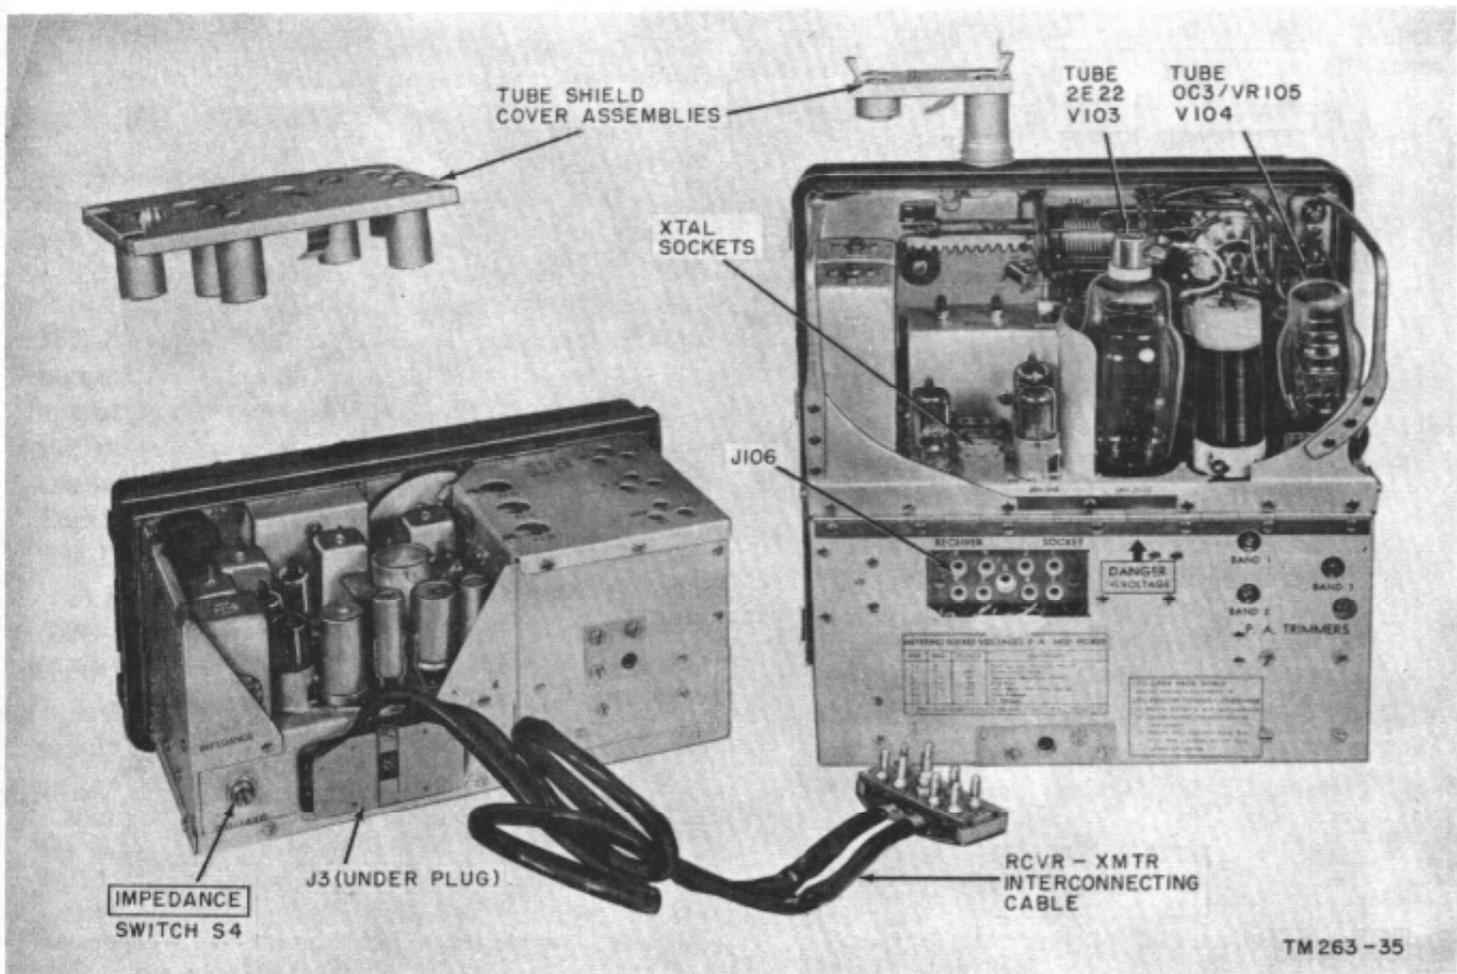
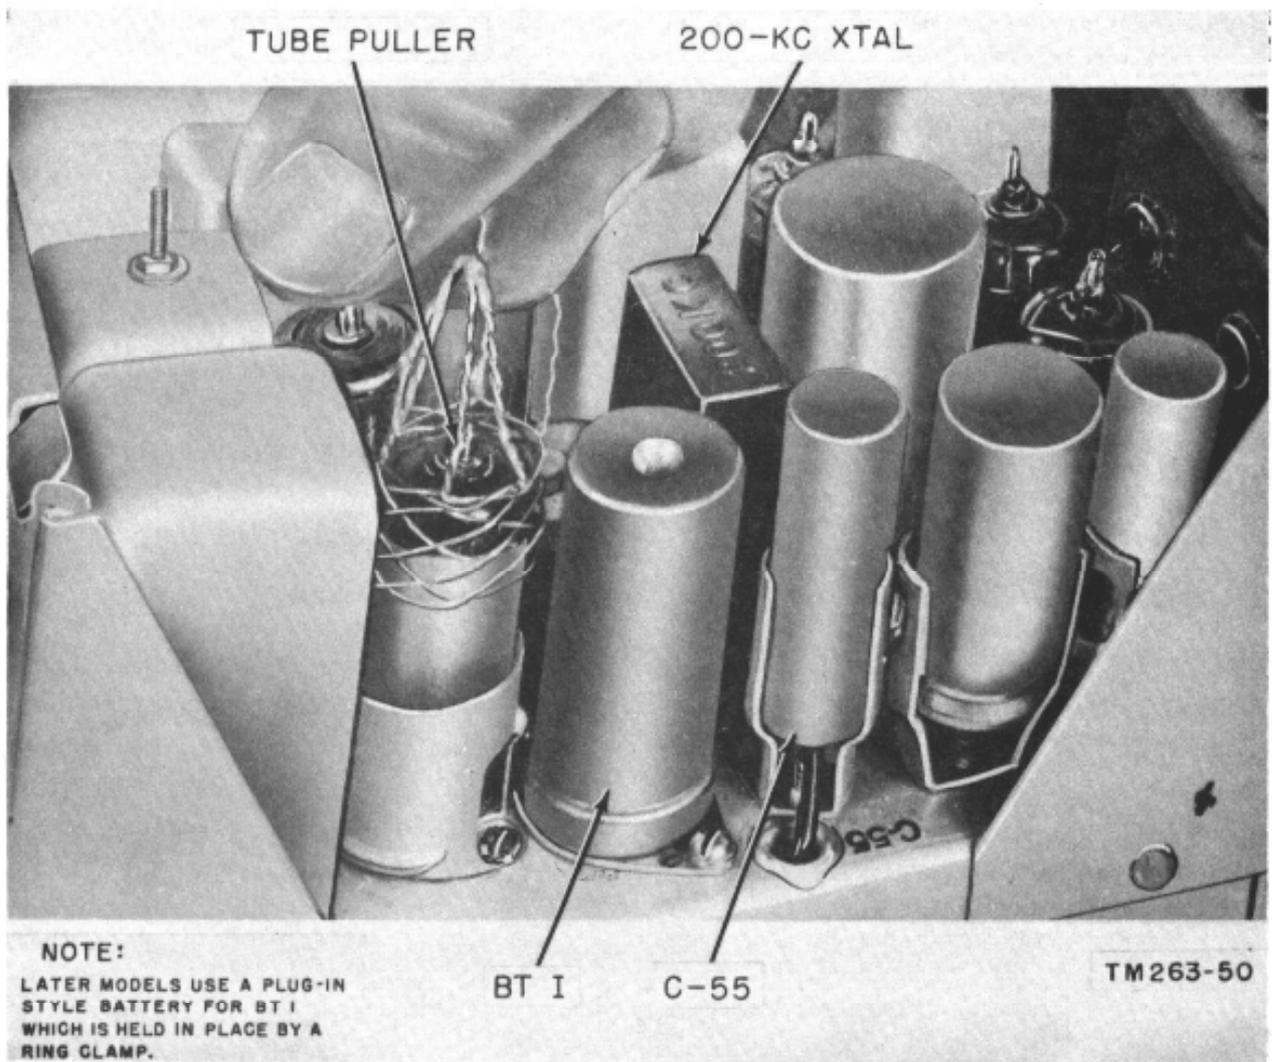
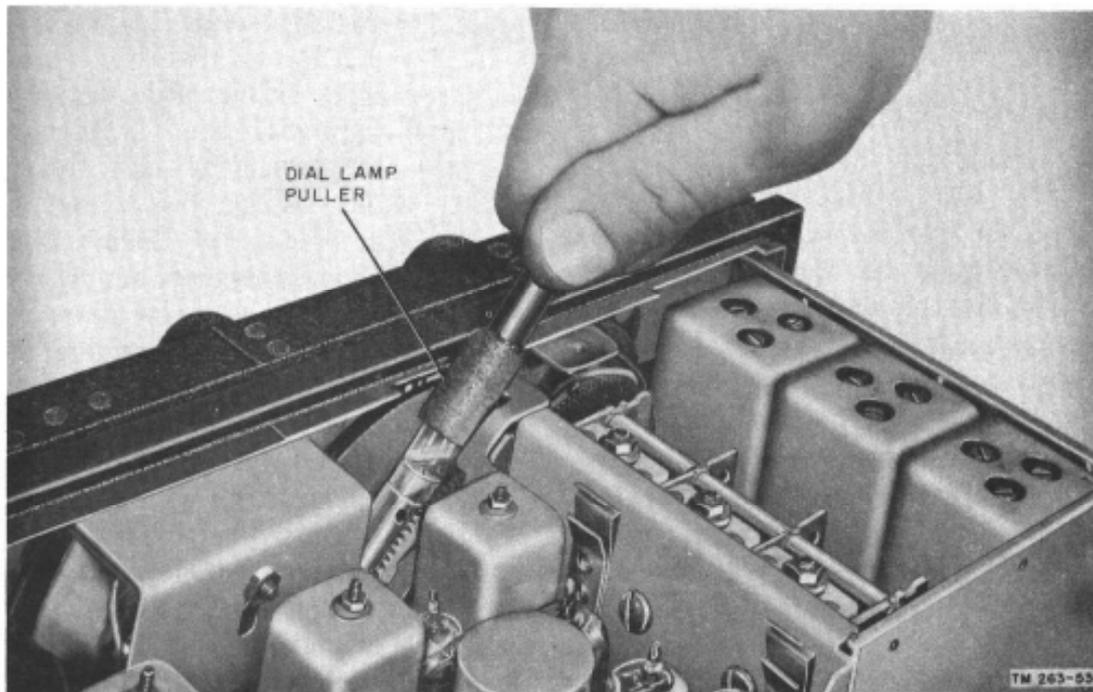

Figure 30. Rear view of radio set out of its case.
Figure 31. Removing tubes using tube puller.
Figure 32. Removing dial lamp using pilot lamp puller.
- (b) Lift the cover straight up without tilting it. This is necessary to avoid any damage that may occur if the tube shields (fig. 30) are forced sideways, pushing any tube which is in
(fig. 30), and then place the receiver on the operating or testing bench. The tubes and crystal are located beneath a single metal tube shield cover plate, which is removed without the aid of tools.
- (4) If a tube has to be removed (fig. 31), use the tube puller provided with the radio set. Refer to paragraph 65b(1) for the removal procedure.
- (5) Insert or replace tubes and crystal as necessary in accordance with the tube layout chart on the side of the receiver.
- (6) There are seven tubes; each one will fit into its socket in only one position. Do not jam the tube in the socket. Rotate the tube gently, until the tube prongs are lined up with their corresponding socket holes; then press the tube straight down into its socket.
- (7) Only one crystal is in the receiver. To remove it, insert a screwdriver between bias cell BT1 and capacitor C55 (fig. 31) and gently pry the crystal upward, and, at the same time, pull it with the fingers.
- (8) Bias cell BT1 used in earlier equipment is wired into the circuit by two solder connections. Later models use a bias cell holder and plug-in style Battery BA-1293/U. The holder contains a socket with a 2-pin female receptacle, which mates with 2 male plug-in pins on the battery. A ring clamp, tightened by a screw on one end, encircles the battery unit when it is plugged in. The socket is wired into the circuit beneath the chassis in the same manner in which the old battery was connected. For information on modification procedures, refer to MWO SIG 11-263-1, Modification of Radio Set AN/GRC-9 to Provide an Improved Mercury Biased Cell.
- (9) The dial light lamp may be removed (par. 65b(5)) by using the dial lamp puller (fig. 32).
- (10) If the transmitter section is to be
- (2) Install tube 2E22 in its socket (fig. 30) as described in a(6) above.
- (3) The voltage regulator tube VR105, V104 (fig. 30) can be removed after removing the safety clamp around the base of the tube. Refer to paragraph 65b(3) for further instructions pertaining to this clamp.
- (4) Tubes V101, V102, and V105 (fig. 120) and crystals 1A, 1B, 2A, 2B, 3A, and 3B are located under a small tube shield cover plate (fig. 30). The cover plate can be removed by releasing the spring catches at both ends of the plate and lifting straight upward. The tubes and crystals are then easily accessible. The tubes can be removed as shown in figure 31.
- (5) If the transmitter is shipped without crystals, remove the tube cover plate as described in (4) above. Plug the crystals in their proper sockets as shown on the cover plate. The choice of a crystal depends on the operating frequency, refer to paragraph 22f for the crystal frequencies available. Because a frequency doubler circuit is used in the transmitter, the transmission frequency will be twice the natural frequency of the crystal. Therefore, if it is desired to trans-
a. *Installation of Generator GN-58 (*)* (fig. 32). The generator power supply is used to supply power to the receiver-transmitter during ground operation. The generator power supply
The separate receiver and transmitter sections are connected by the receiver-transmitter interconnecting cable (fig. 30), which is secured (in some units) to the metal case behind these sections. Refer to paragraph 32b(6) for instructions to connect this cable. No other cords or cables are used between these sections. See B, figure 54 for the wiring diagram of the cable and its connectors.